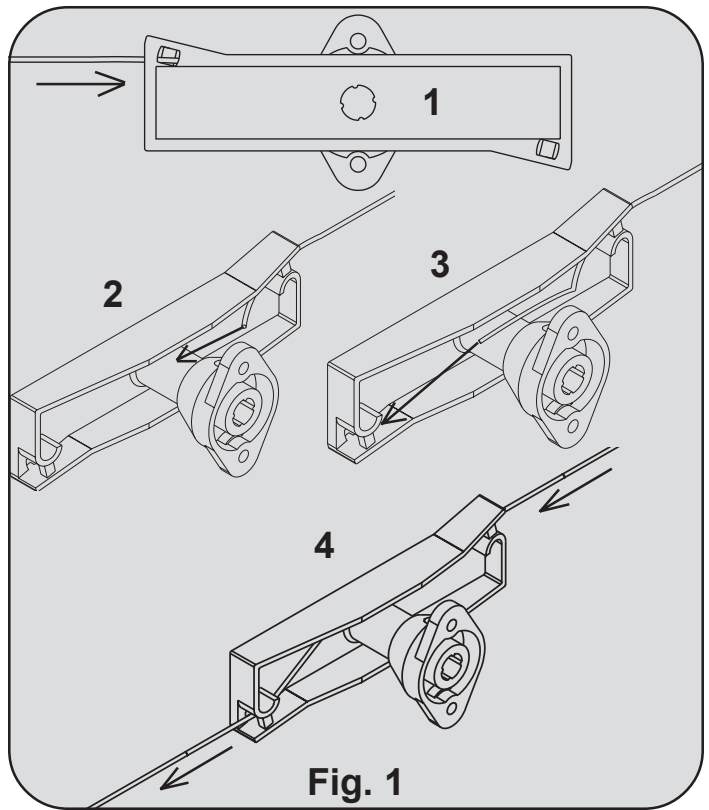

Fig. 1
8000/8100/8200/PR9000 & PR9050 Series doors (see Fig.1), place the lock section face down on (2) padded sawhorses for a single car door or (3) padded sawhorses for a double car door. Locate the (3) hole pattern in the center stile of the lock section. Use the (3) holes as a template to drill (3) 1/8" diameter holes through the section. Flip the section over, face up. With the section face up, enlarge all (3) holes to 3/4" diameter, **pay close attention not to drill complete through section into center stile.**
8000/9000 Series & Wood doors (Fig.1-3), locate the inside handle and uncoil the lock cable, then thread the cable through the inside handle as illustrated (see Fig.1).